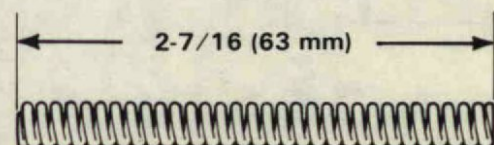

Figure 27. Measuring Clutch Spring Length.
- A. Check free length of clutch spring. Check straightness by rolling on flat surface. Figure 27.